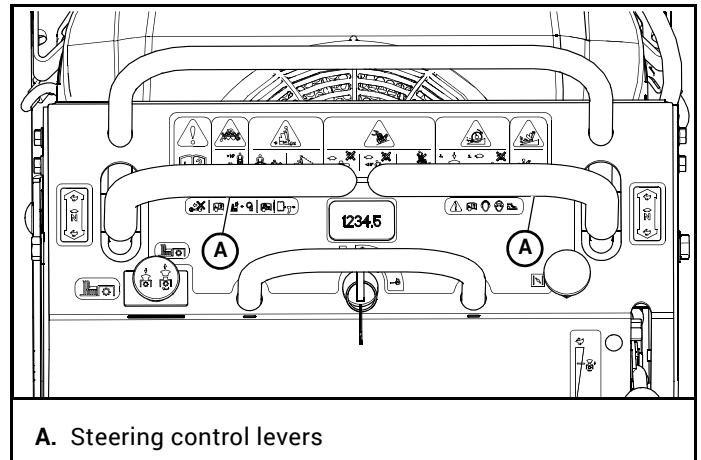

Figure 3-2
- A. **Steering control levers (Figure 3-2)** – these levers control the mower’s speed, direction, and stopping.